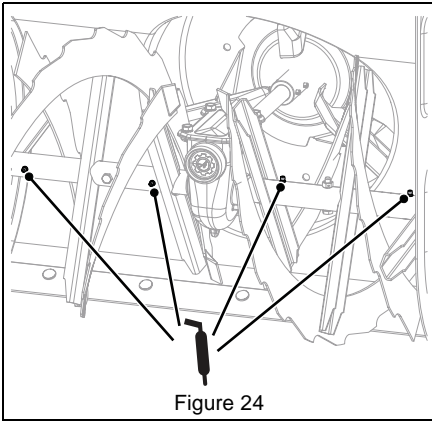

Figure 24
- Apply grease at the grease zerks. See Figure 24.